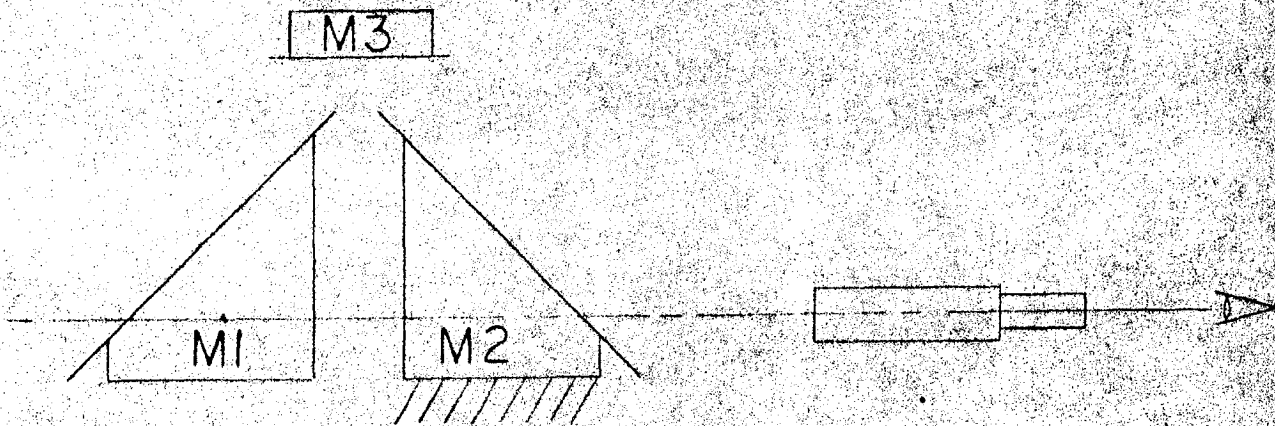

FIG. 1
10. Rotate the K-rotator housing until mirror M1 (see Figure 1) will be held in position by gravity when the adjustment locking screws are loosened. Loosen the locking screws with the Ash hex ball driver set supplied for this purpose.